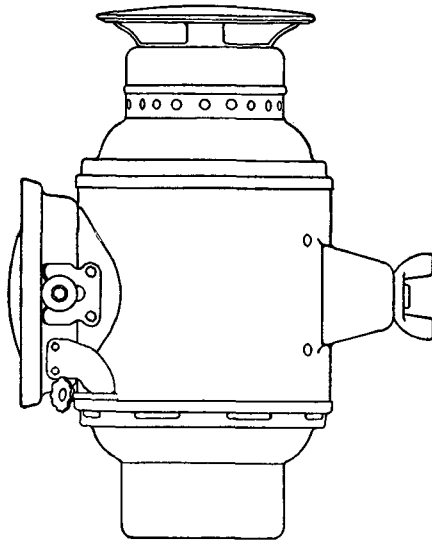

FIGURE 39.—Aiming lantern, M2.
*a.* The aiming lantern, M2 (fig. 39), is a small lantern of the type formerly used extensively for automobile side lamps. The lantern has a nonlosable burner burning kerosene and delivering about 7 candlepower. A standard No. 00 ( $1\frac{3}{32}$  inch) flat wick is used.